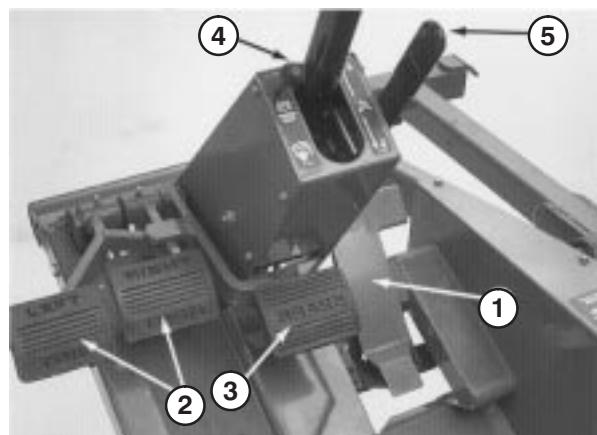

Figure 18
**Traction Pedal** (Fig.18)—Traction pedal has two functions; one is to make the machine move forward, the other is to make it move backward. Using the heel and toe of the right foot, depress top of pedal to move forward and bottom of pedal to move backward. Ground speed is proportionate to how far pedal is depressed. For maximum ground speed with no load, traction pedal must be fully depressed while throttle is in FAST position. Maximum speed forward is approximately 9.5 mph (15 km/hr). To get maximum power under heavy load or when ascending a hill, have throttle in FAST position while depressing traction pedal slightly to keep engine rpm high. When engine rpm begins to decrease, release traction pedal slightly to allow engine rpm to increase.
**Turn Pedals** (Fig. 18)—The left and right turn pedals are connected to the left and right front wheel brakes since both brakes work independently of each other. The brakes can be used to turn sharply or to increase traction if one wheel tends to slip while operating on a hillside. However, wet grass or soft turf could be damaged when brakes are used to turn.
**Tilt Steering Control** (Fig. 18)—Lever on right side of steering column. Pull lever rearward to adjust steering wheel to desired fore or aft operating position and push lever forward to lock adjustment.
**Brake Pedal** (Fig. 18)—Whenever the engine is shut off, the parking brake must be engaged to prevent accidental movement of the machine.